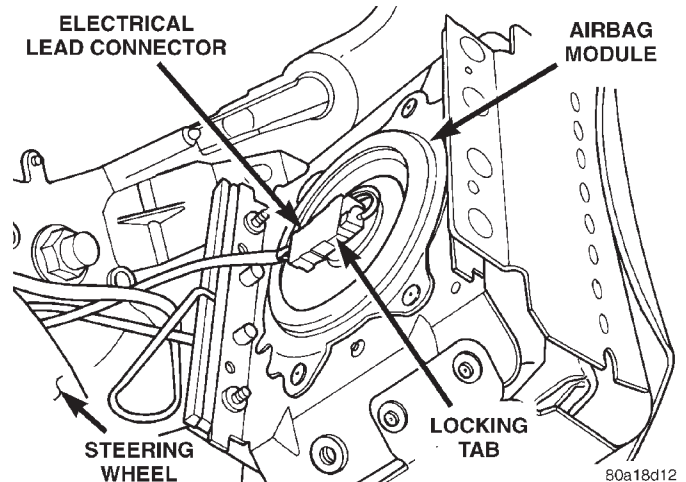
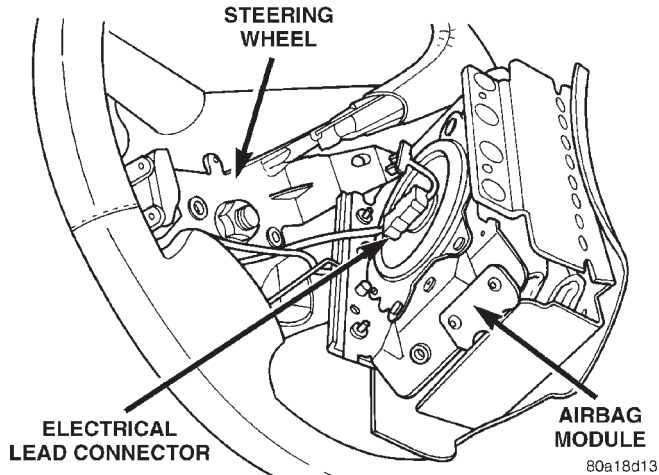

Fig. 10 Airbag Module Electrical Lead Locking Tab
Fig. 11 Airbag Module Electrical Lead Connector
(12) Remove the airbag module from the center of the steering wheel.
(13) Remove the locking tab from clockspring airbag electrical lead connector (Fig. 10). Locking tab is removed by pulling it straight out of the airbag connector. **Do not twist the locking tab when removing it from the connector.**
(14) Disconnect the electrical connector (Fig. 11) from the back of the airbag module. Connector is removed by pulling it straight out of the airbag module. **Do not twist the connector when removing it from the airbag.**
(16) Install the airbag electrical lead into connector on back of airbag module (Fig. 11). Insert locking tab into back of airbag connector (Fig. 10). **Be sure electrical connector from clockspring is securely latched into airbag module connector.**